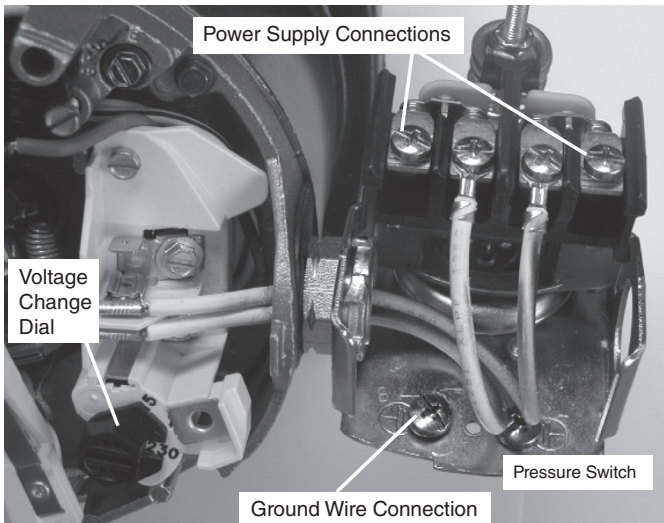

**Figure 4 – Removing Motor End Cover**
1. Connect the ground wire first as shown in Figure 4. The ground wire must be a solid copper wire at least as large as the power supply wires.